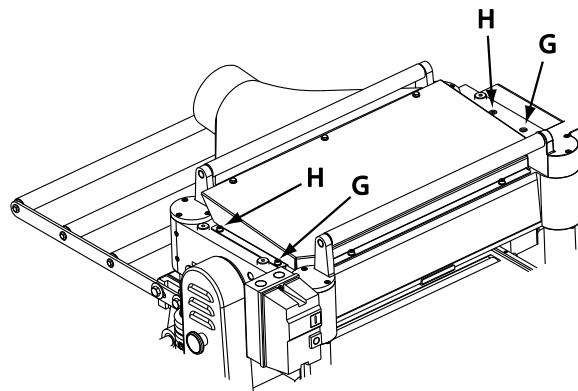

Figure 19
To adjust the spring tension of the infeed and outfeed rollers, turn screws (G & H, Figure 19) with a hex wrench. Turn screws on opposite end of infeed/outfeed rollers in the same manner.
0.024" (0.6mm) below the cutting arc; and the outfeed roller should be set at 0.028" (0.7mm) below the cutting arc. See Figure 19.